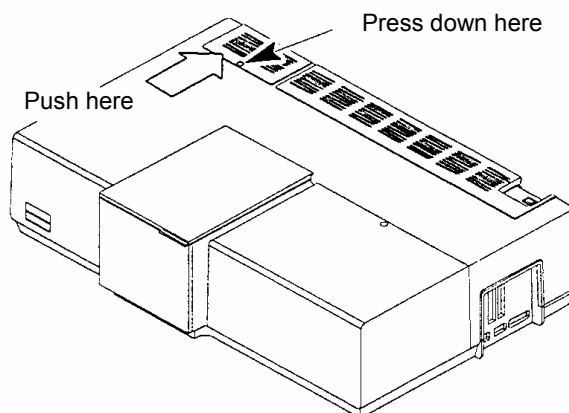

Figure 36 Removing the lamp compartment cover
2. Remove the lamp compartment cover by pressing down the catch and pushing the cover to the left, as shown in Figure 36.